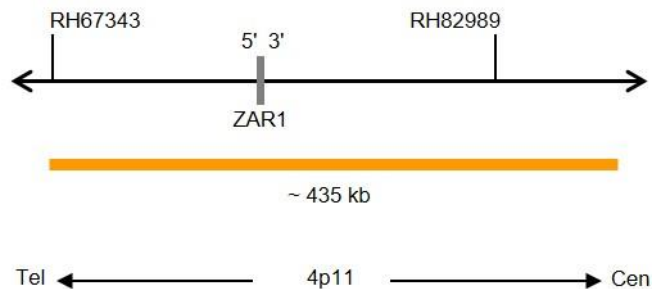

Fig. 1: SPEC 4p11 Probe map (not to scale)
- ZyOrange (excitation 547 nm/emission 572 nm) labeled polynucleotides (~4.5 ng/ μ l), which target sequences mapping in 4p11* (chr4:48,329,914-48,762,386) (see Fig. 1).